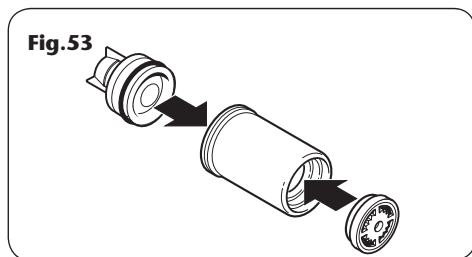

Fig.53
- h. Replace the check valve into the sleeve, making sure it is in the correct way (**fig.53**).